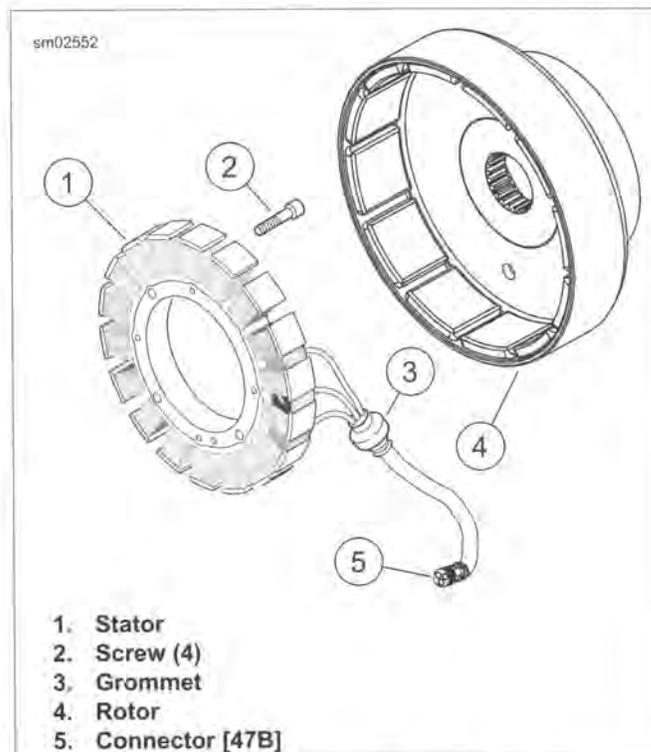

Figure 7-66. Rotor and Stator (Typical)
5. See Figure 7-66. Remove alternator rotor (4). Use two bolts inserted through the holes in the rotor face to aid during removal.